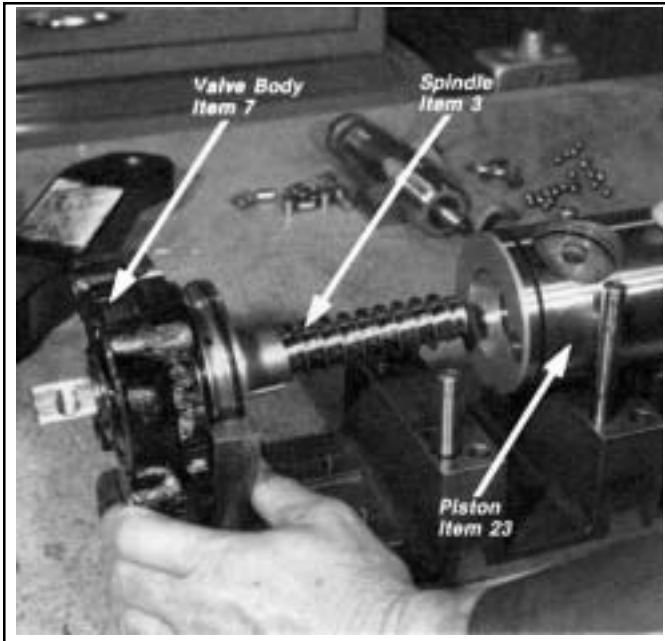

FIGURE 25 - REMOVING/INSTALLING SPINDLE
Separate the valve body and spindle from the piston. Check the inside of the piston for any stray balls (9) that may not have been removed in the operation above. A total of 26 balls, 7 from the ball tube and 19 from the piston, should be accounted for. *Figure 25*